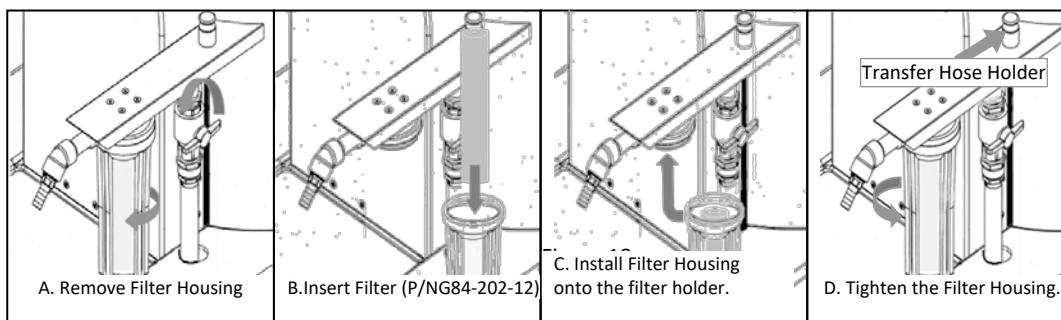

Figure 15
12. Remove Filter Housing and drain all residual water from the Housing. Install new Filter and tighten Filter Housing into place. See Figure 15.